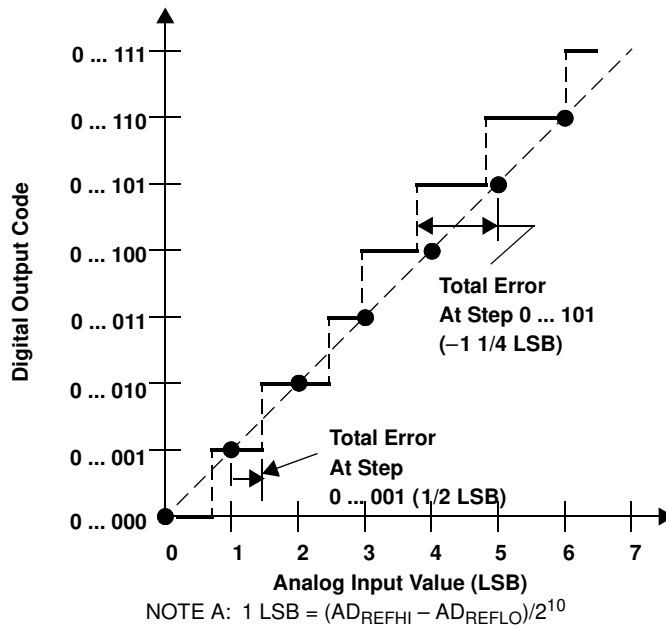

Figure 24. Absolute Accuracy (Total) Error
The absolute accuracy or total error of an MibADC as shown in Figure 24 is the maximum value of the difference between an analog value and the ideal midstep value.
- Figure 24. Absolute Accuracy \(Total\) Error